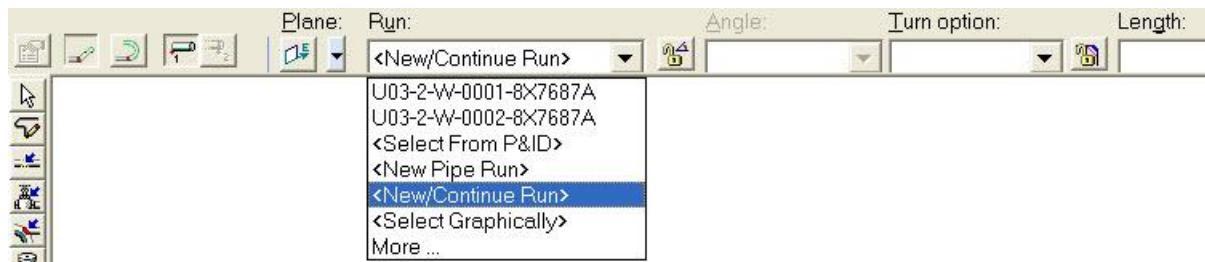

Figure 11. 28: Run Drop-Down List on the Route Pipe Ribbon
14. Change the following specifications in the **New Pipe Run** dialog box, as shown in Figure 11. 29, and click **OK**.